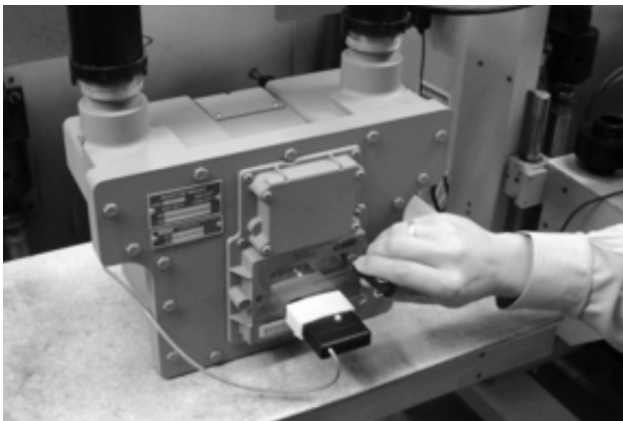

Figure 10.13 - Light on IrDA cable indicates connection is established
3. Place the meter into the Compensated Prove mode. (Refer to Section 10.2 for information assistance.) Once the meter goes into prove mode the red light will switch from a flashing red light to a solid red light as shown in Figure 10.13. Now the meter test will start.